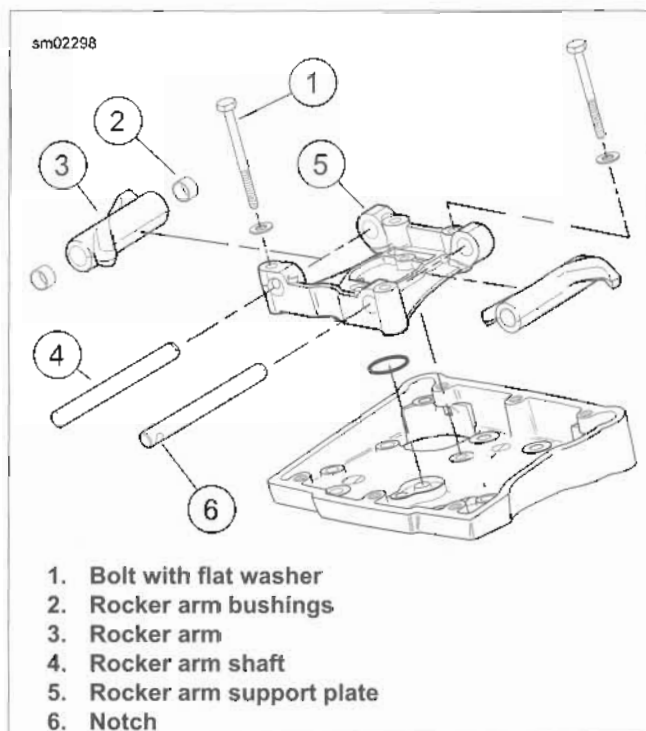

Figure 3-30. Rocker Arm Assembly
1. See Figure 3-30. Remove four bolts and flat washers (1) from the rocker arm support plate (5).
2. Remove the rocker arm shafts (4) so that the notched ends exit the rocker arm support plate (5) first. Use a hammer and brass drift if necessary. Mark the shafts so that they are installed in their original locations at time of assembly.
2. See Figure 3-30. Check rocker arms (3) for uneven wear or pitting where contact is made with the valve stem tips. Check for concave wear where rocker arms contact the pushrod ends. Replace rocker arm if excessive wear is found.
3. Verify that oil holes in rocker arms and rocker arm support plate (5) are clean and open.
4. Inspect rocker arm shafts (4) for scratches, burrs, scoring or excessive wear. Replace as necessary.